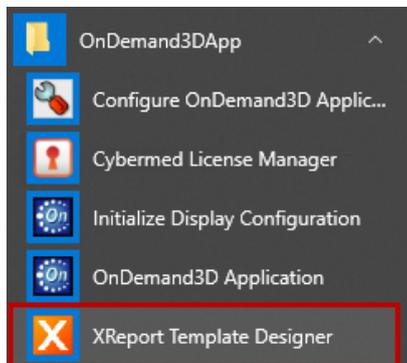

Fig. 275 Run X-Report Template Designer from the Start menu
**Radio Button.** Create a group of choices where only one item can be selected. Users will be prompted to put in their radio button values in the [Insert Radio Button] dialog, as shown below. Use the [Add] button to add in new values and [Modify], [Remove] or [Move up] if necessary. Select the default value as well, and as shown in Fig. 275, it will be set as the first choice.